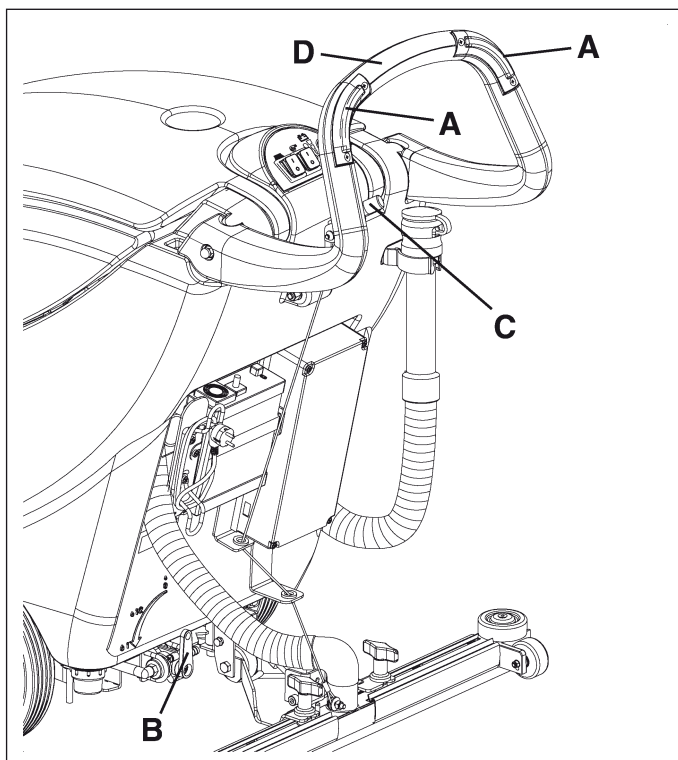

Figure 18
2. While keeping both hands on the handlebar (D, Fig. 18), move the machine and start scrubbing/drying the floor.
by releasing the switches (A, Fig. 18).*
releasing the switches (A, Fig. 18).*
3. If necessary, adjust the solution flow sent to the brush/pad by turning the lever (B, Fig. 18).
2. Lift the squeegee by pushing the lever (C, Fig. 18) upwards.